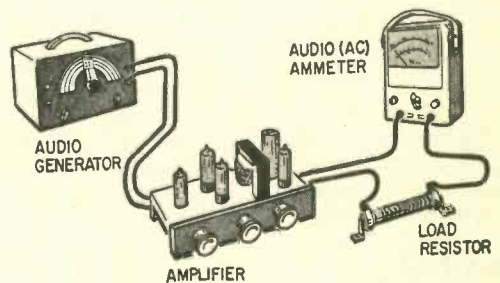

Fig. 9. This setup is seldom used—that in Fig. 8 is preferred since audio-frequency voltmeters are a lot more popular than audio-frequency milliammeters.
Another way is to use an audio (AC) ammeter in series with the load as shown in Fig. 9. If the meter indicates one ampere